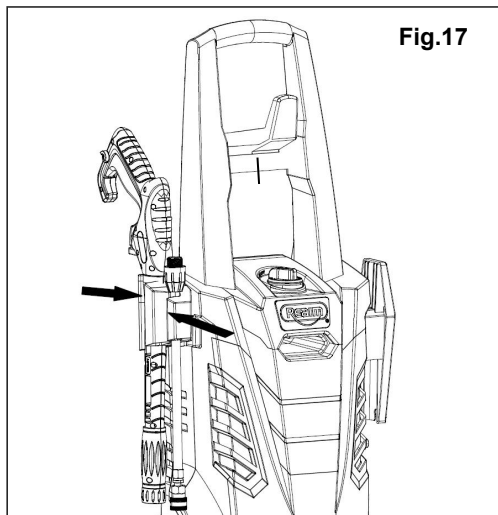

Fig.17
1. Storage the trigger gun and spray lance on the holders(Fig.17).
2. Hang the power cord on (7) and high pressure hose on (10).